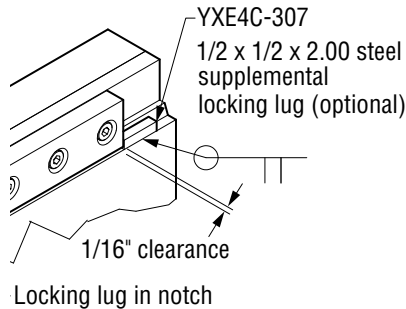

Figure 3-3, Locking Lug
8. Weld on the supplemental locking lug that is supplied with the attachment, (two pieces of 1/2" x 1/2" x 2.00" steel included with the attachment) with either E-6011 or E-6013 welding rod, or equivalent, on each side of the truck carriage. (Figure 3-3)